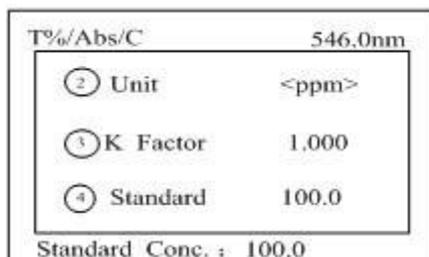
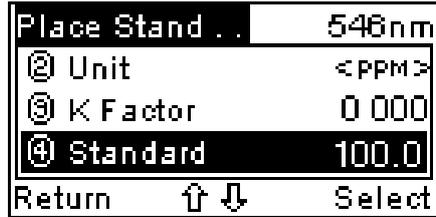
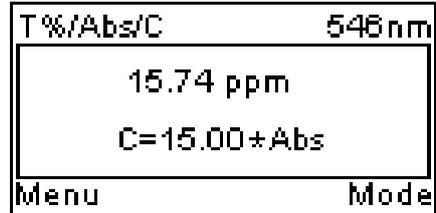

Fig 18
Fig 19
Fig 20
- 2.2. Move the reverse display stripe to line 4 or press **【F4】** in Fig 12 to select Standard.(Fig 18) , input the standard concentration ,press the **【ENTER】** to confirm, push the standard concentration into the light path and press **【START】** to take measurement.(Fig 19). Press **【F2】** to return to test screen. (Fig 20)